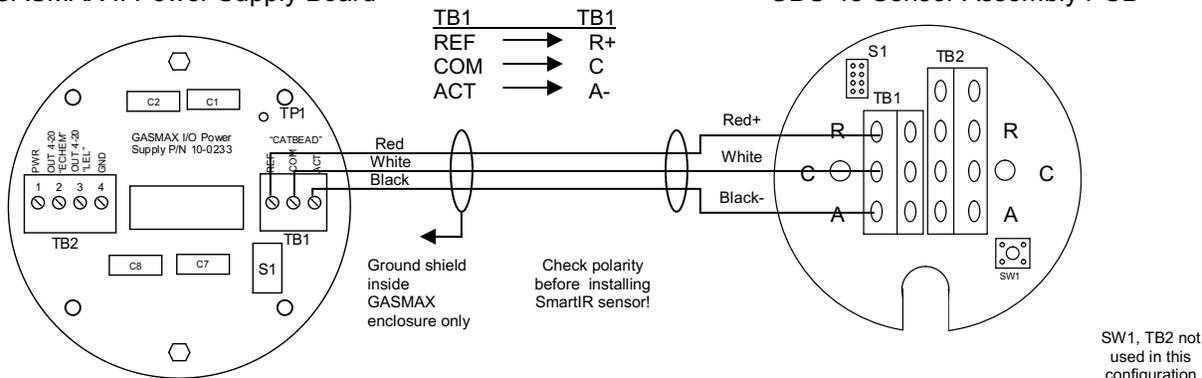

Fig 2. GASMAX II to GDS-48 Wiring Diagram for SmartIR
- 3) Connect the GASMAX to the GDS-48 as shown in Fig. 2. (R = Reference Bead (+), C = Common, A = Active Bead(-))